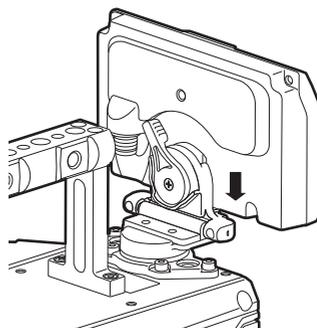

Fig. 2
- 2** Mount the control panel onto the control panel mounting part. (Fig. 2)